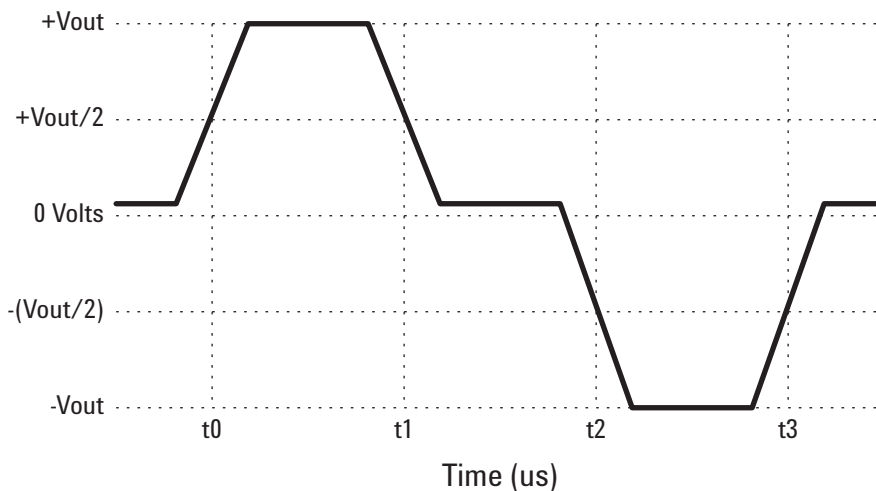

Figure 28 Bottom Threshold
Figure 28 illustrates the effects of choosing $-(+V_{out}/2)$ as the bottom crossing threshold. The reference waveform is redrawn with exaggerated baseline wander. Note that the choice of $-(+V_{out}/2)$ as the bottom threshold results in worse duty cycle distortion value than if $-V_{out}/2$ were chosen as the negative threshold.
- 2 Ensure that the DUT is sending the MLT-3 encoded 01010101 NRZ bit sequence as shown in Figure 28.
Figure 28 illustrates the effects of choosing $-(+V_{out}/2)$ as the bottom crossing threshold. The reference waveform is redrawn with exaggerated baseline wander. Note that the choice of $-(+V_{out}/2)$ as the bottom threshold causes a worst peak-to-peak duty cycle distortion value than if $-V_{out}/2$ were chosen as the negative threshold.
As indicated in Figure 28, the 4 successive 50% crossing times are measured. These are named t_0 , t_1 , t_2 , and t_3 respectively. The specification states that the deviations of the 50% crossing times from a best fit grid of 16 ns shall not exceed ± 250 ps. We validate this specification in terms of the peak-to-peak duty cycle distortion requirement of 500 ps. This is done as follows: